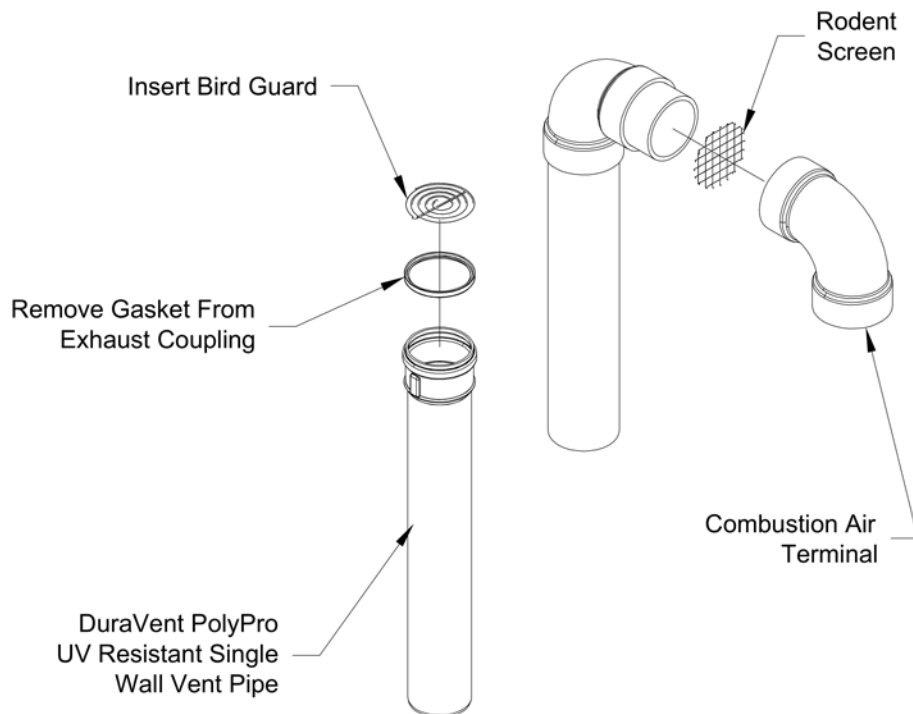

Figure 7.36: Installation of Duravent PolyPro UV Resistant Single Wall Vertical Terminal
- a. See Figure 7.36 for the proper orientation of twin pipe vertical terminals.
- c. A 180° bend (or two 90° elbows) are installed on the top of the air intake pipe. If two 90° elbows are used, the rodent screen provided can be installed between them (Figure 7.36). If a 180° bend is used, install the rodent screen in the open side of the bend, using a ring made of PVC pipe. If desired, the termination fittings can be attached to the end of the intake pipes with field supplied stainless steel screws so that they can be later removed for cleaning and inspection. If this is done, drill a clearance hole in these fittings and a tap hole in the end of the intake pipes to accept these screws.